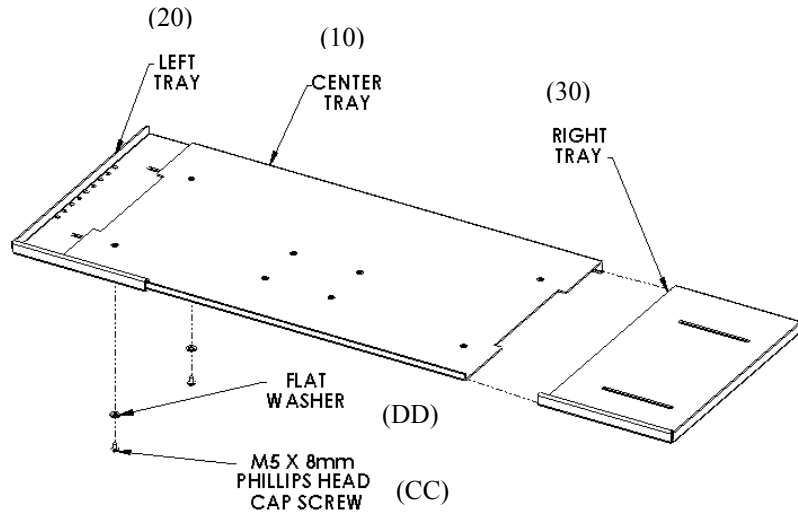
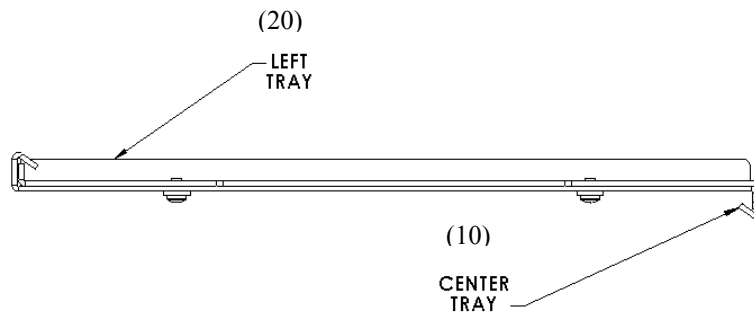

Figure 3. Attach End Trays to Center Tray
Figure 4. Interlock the Flanges on Center Tray
1. Attach each end tray (20 and 30, Figure 3) onto the center tray (10) by interlocking the flanges on the center tray (Figure 4).
2. Align the holes and slots and insert four M5 X 8mm Phillips cap screws (CC) and flat washers (DD) through the bottom as shown in Figure 3.